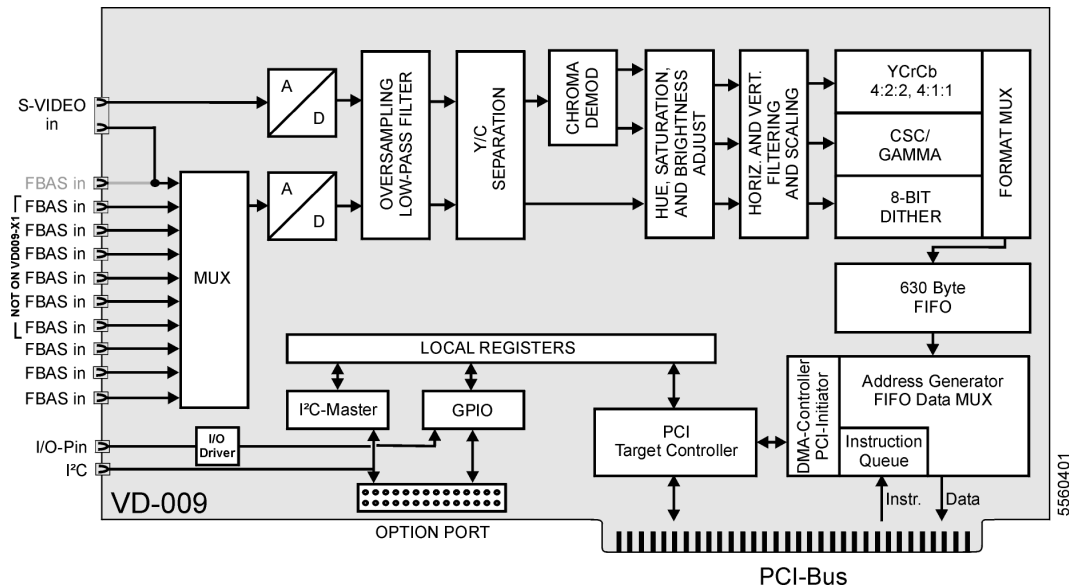

Figure 29: Block diagram
Figure 29 shows the block diagram of the pciGrabber-4plus. The composite input signal is connected to a 9:1-video multiplexer, which is controlled via the PCI-Bus. The following A/D-converter digitizes this signal. All image sources can be used, which provide a color video signal corresponding to the CCIR- standard „PAL (B,D,G,H,I)“, „NTSC (M)“.